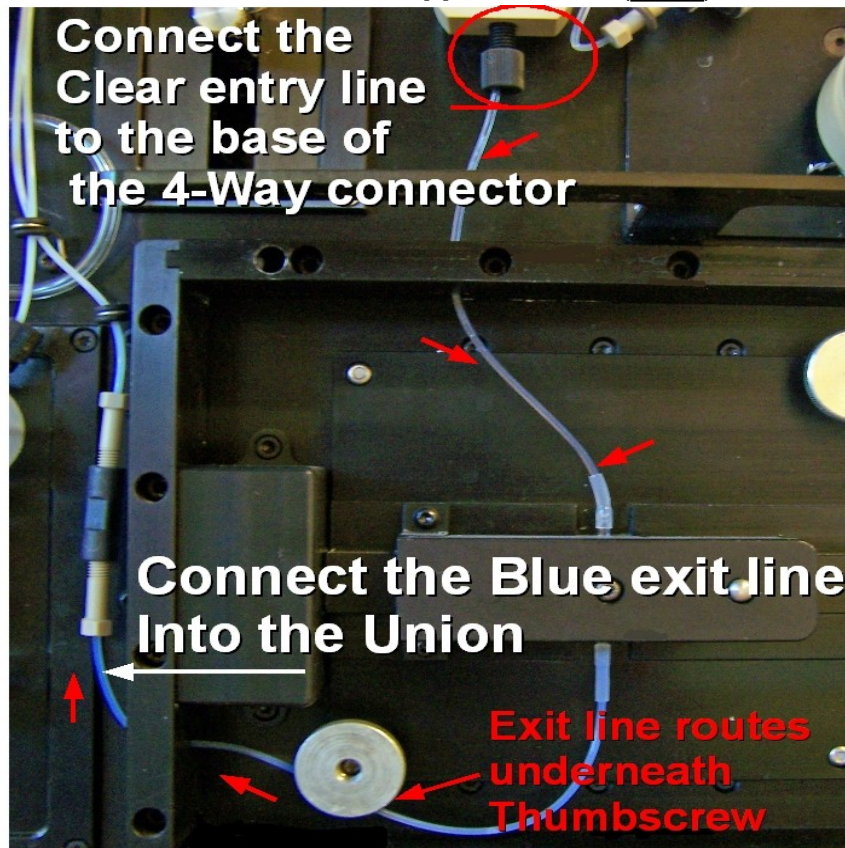

Figure 1 Replacement Flow Cell routing diagram.
- Slide the *Blue Exit Line* through the *O-Ring* (located on the left side of the *Optics Housing Frame*) and connect it into the bottom of the *Union* using a *10-32 Tan Nut* and a *1/16" Tan Ferrule*. Torque the *10-32 Nut* with the *15 in-oz Torque Wrench* and the *1/4" Deep Socket*. **Note: Make certain to route the *Blue Exit Line* underneath the thumbscrew as shown in Figure 1 to avoid putting pressure on the *Flow Cell*.**